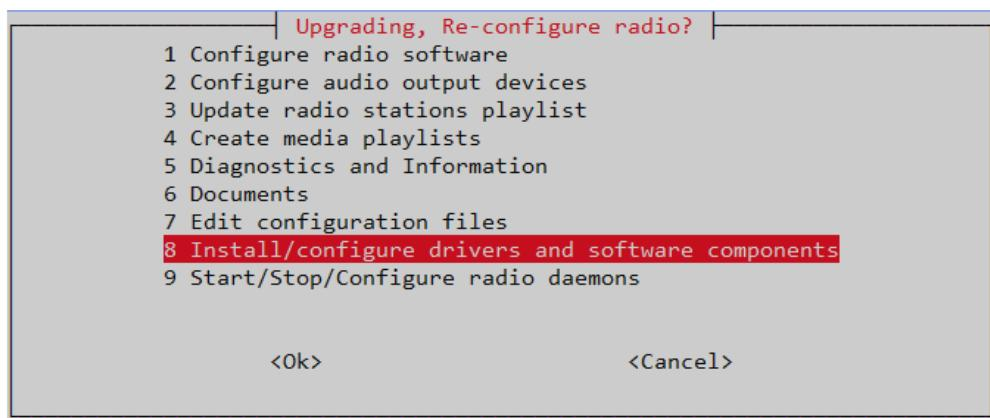

Figure 201 The radio-config menu
- Select option **6 Documents and Tutorials** from the **radio-config** menu shown in *Figure 201 The radio-config menu* on page 138.